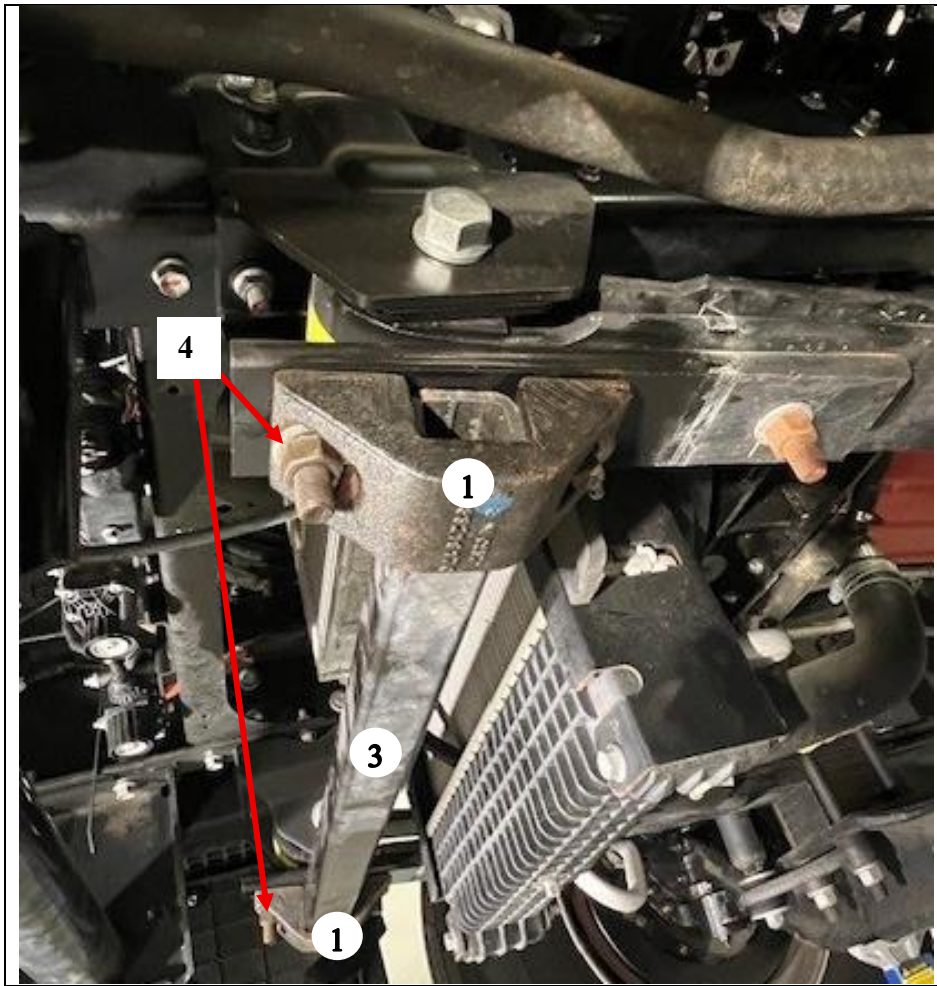

Figure 2
3. Support the stabilizer bar (3) and remove the remaining stabilizer bar mount brackets (1) nuts and washers (4). Remove the stabilizer bar and brackets. (See Figure 2.)